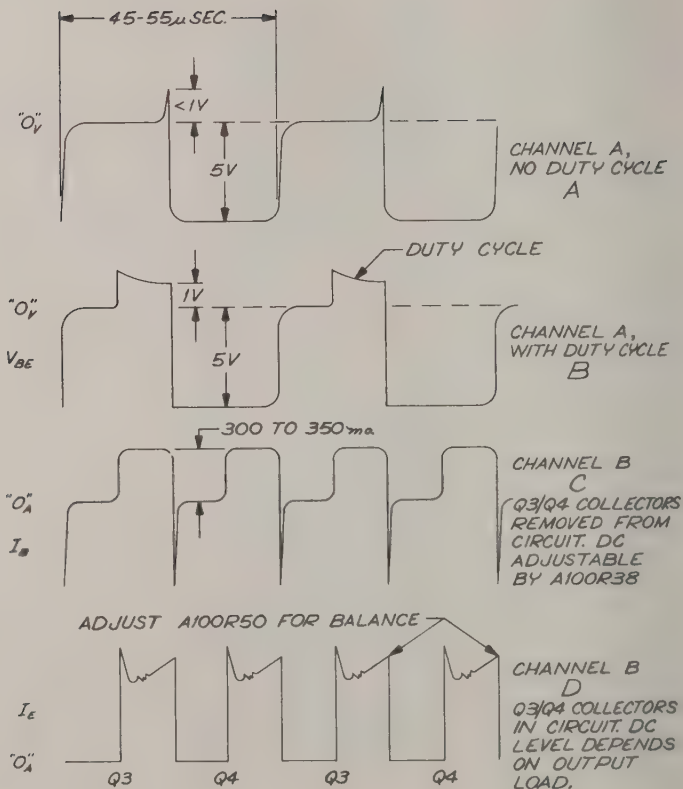

Figure 5-7
7. Place line power to ON. The unit should be working under deep current limiting mode. Check the following: (See waveform pattern "A", figure 5-7.)
8. Slowly adjust A100R38 CW. On the oscilloscope, the presence of a duty cycle will be observed. (See waveform patterns "B" and "C", figure 5-7.) If A100R38 has no control over the duty cycle, check CR11/CR15 or C15.
6. Apply nominal input power and turn A100R38 slowly CW. The output voltage should increase and the current waveform on oscilloscope channel B should appear as in pattern "D" of figure 5-7.
- 7. Apply full rated load current. Adjust balance control A100R50 to equalize as close as possible the main conducting portion of any two adjacent emitter current waveforms as indicated in pattern "D" of figure 5-7.